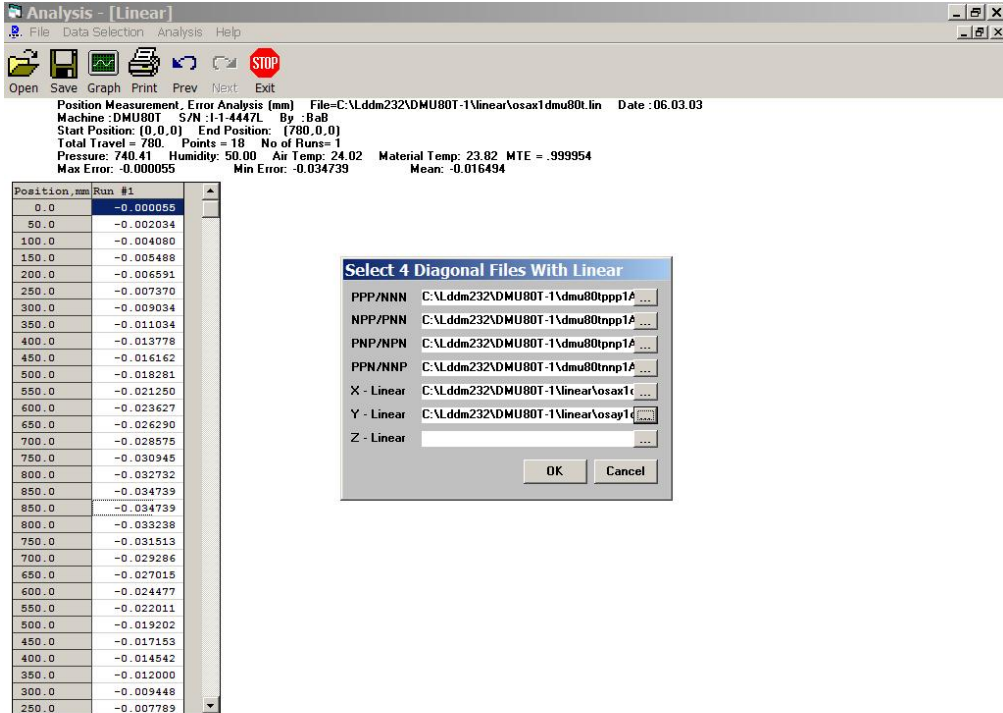

FIG. 9-5 SEQUENTIAL DIAGONAL DATA ANALYSIS SCREEN
- 2) Under the **Data Selection** heading, you can only choose **Displacement** when looking at a linear (.LIN) file, or "4 diagonals". After click on the "4 diagonals with Linear", a screen "Select 4 Diagonal Files with Linear" will popup (see FIG. 9-5). Enter the 4 diagonal files. There are 4 types of diagonal files, ppp/nnn, npp/pnn, pnp/npn and ppn/nnp. The file can not be entered by type the filename. Click on the right hand button to enter the correct type of diagonal file to the corresponding line. The program will process the data with at least one diagonal file and assume all the other diagonals are zeros. For a correct analysis, all 4 diagonal files must be entered. For a non-isotropic machine, sometimes it is necessary to input 2 linear displacement files with the same travel distances.